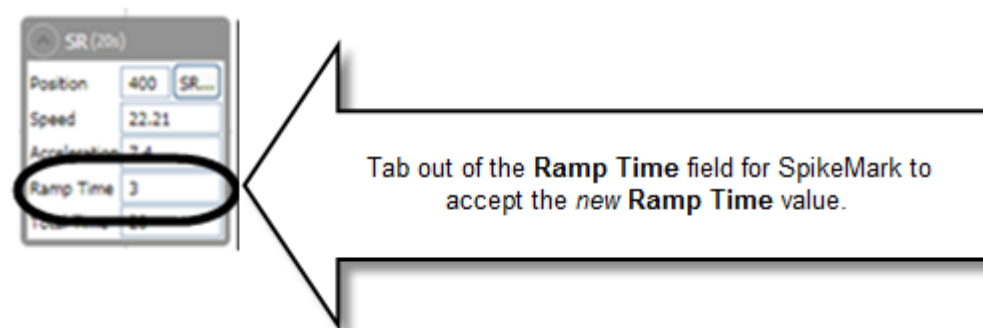

Figure 141
3. Select and change the **Ramp Time** value and press the **Tab** key (Figure 141).